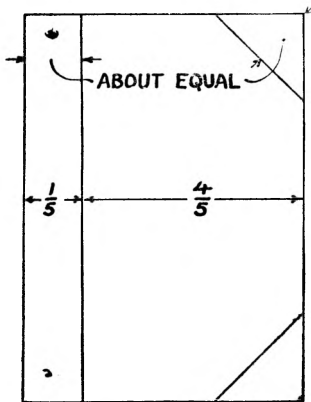

Fig. 21
23. Decide upon the width of the cloth back and the cloth corners by trial with paper patterns. There is no rule about these sizes but as a *rough guide* it is suggested that the cloth back should cover about one-fifth of the total width of the book. The corners should not be too large, their diagonal width being not greater than the width of the back, fig. 21. Cut paper patterns to the exact size required allowing $\frac{5}{8}$ " extra for turning over the edges.